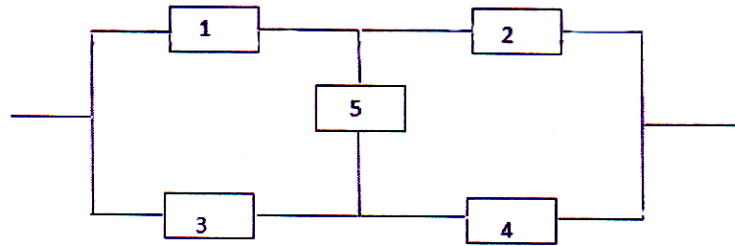

Fig. 1
- Q3) a) Find the reliability of a system shown in the figure 1 by using conditional probability method. Assume that the components 1, 2, 3, 4 are identical and independent with the reliability value of 0.89 and component 5 has reliability of 0.8. [8]